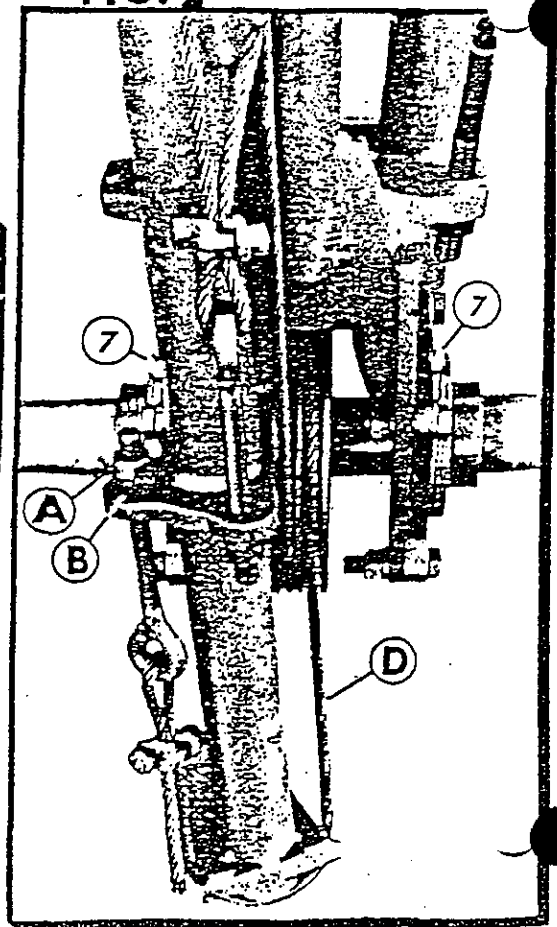

FIG. 4
To adjust Car Revolving Cable, Ref.(D) Fig. 4, loosen Lock Nuts, Ref.(A) Fig. 4, and tighten Adjusting Nuts, Ref.(B) Fig. 4, to 75 foot lbs. of torque. The Car Keyway, in the spindle, must point up on a parallel line with the Column. Tighten the Lock Nuts, Ref.(A) Fig. 4. Check Cable Clamps for tightness. To replace Cable, rewind as shown in Fig. 4.